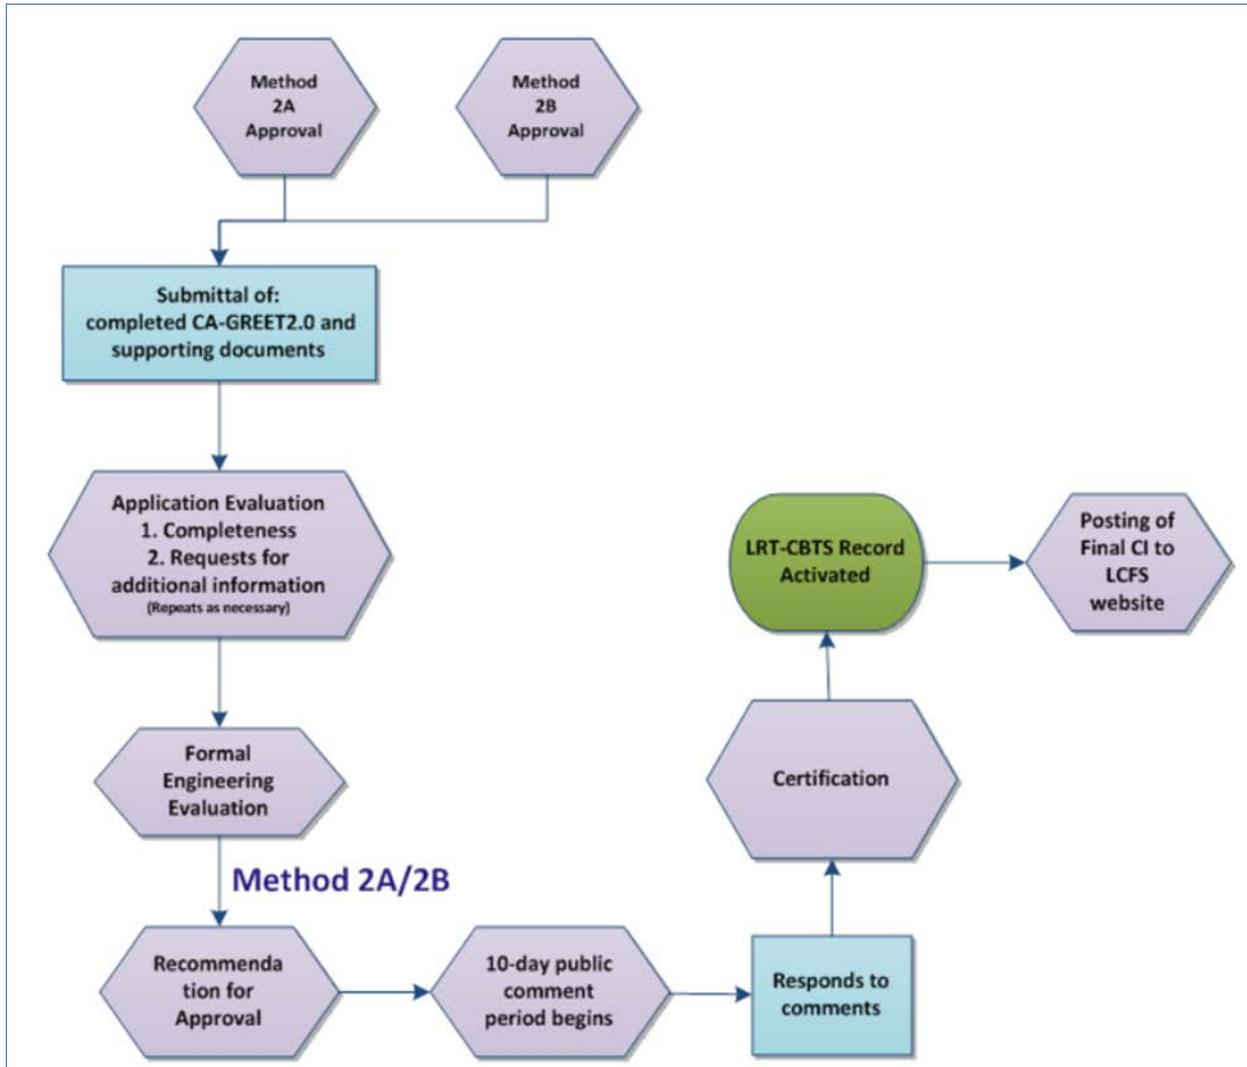

Figure 6. Overview of Method 2A- and 2B Pathway Processing
Figure 6 provides an overview of the certification process for Method 2A (and Method 2B) pathways. Tier 2 Method 2A applicants must use the CA-GREET2.0 Tier 2 model, and use the tab labeled “T2 Calculator” – an interface similar to the “T1 Calculator” tab in the Tier 1 version. The Tier 2 Calculator contains general instructions for using the model. Refer to § 95488(b)(3) and § 95488(c) for Tier 2 required submittals for the pathway application process.